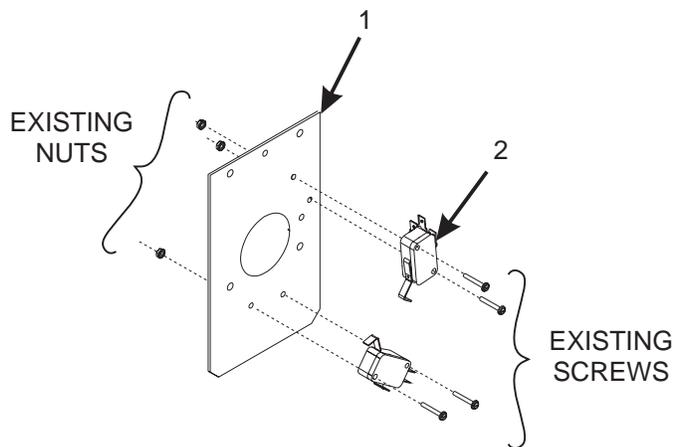
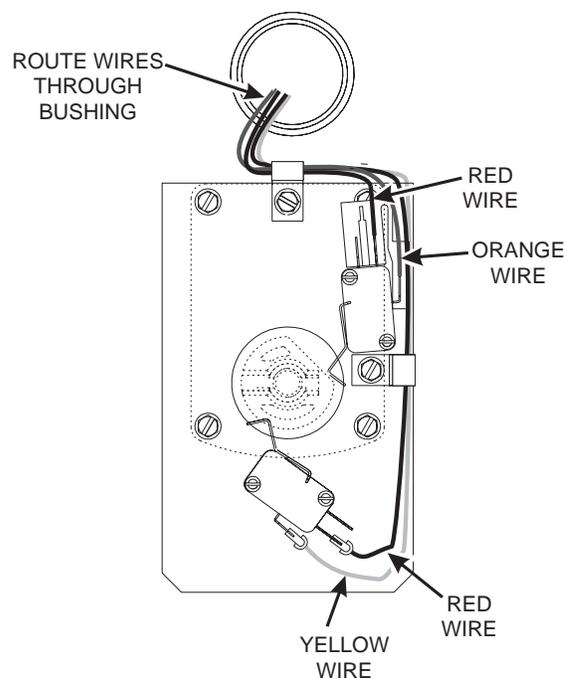
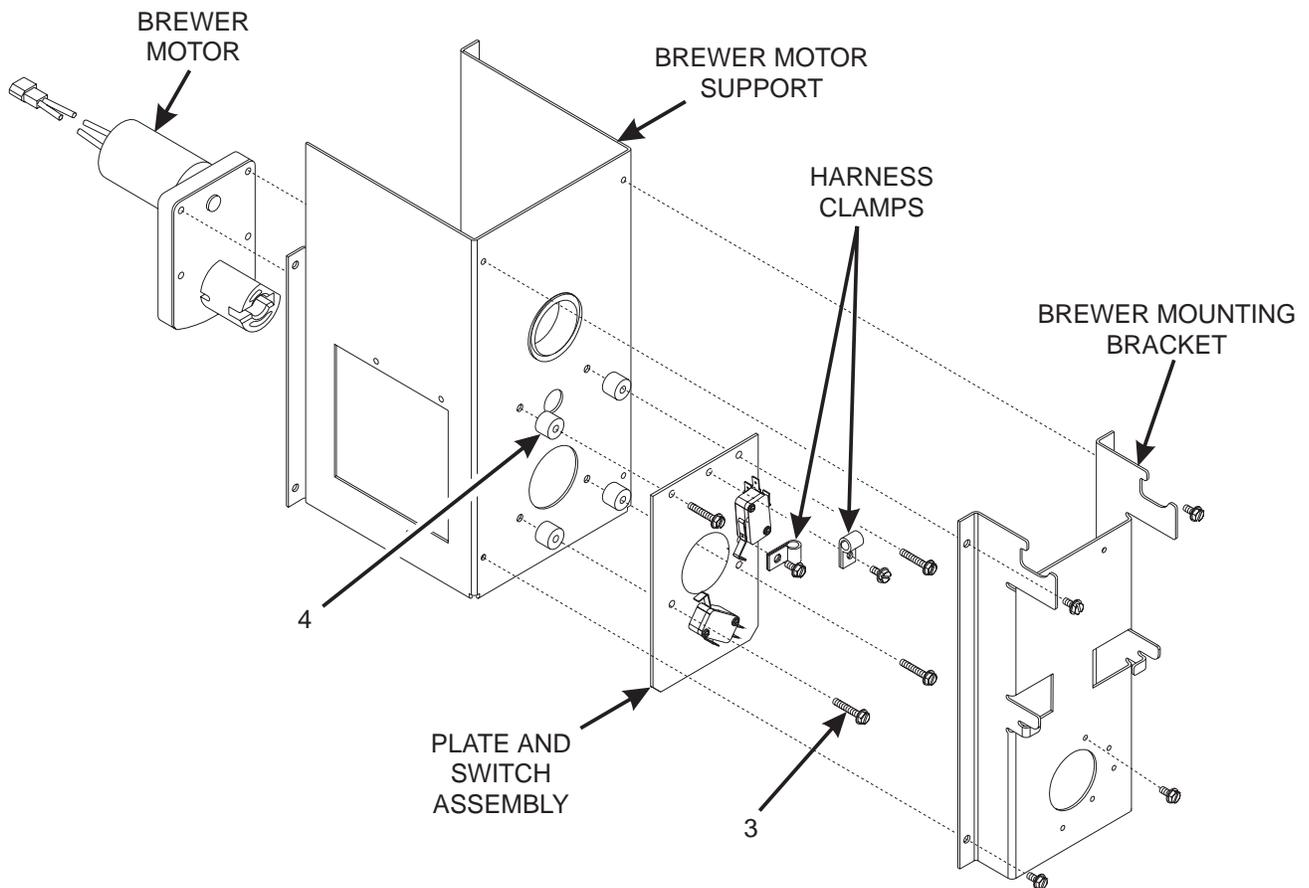

Figure 1
Figure 2
Figure 3
4. See figure 1. Mount the new brewer switches (2) to the plate (1), using the screws and nuts you saved from step 3. Make sure the switches are in the orientation shown in figure 2.
6. See figure 3. Install the plate and switch assembly and the brewer motor to the brewer motor support, using the spacers (4) and screws (3) as shown. Make sure that the spacers are located, as shown, between the plate and switch assembly and brewer motor support.
7. See figure 2. Connect the brewer switches harness to the new switches as shown.
8. See figure 3. Remove the two 1/4" harness clamps from the brewer mounting bracket and the brewer support. Capture the brewer switches harness in the harness clamps and install them as shown. Make sure the harness clamps are in the orientation shown in figure 2.